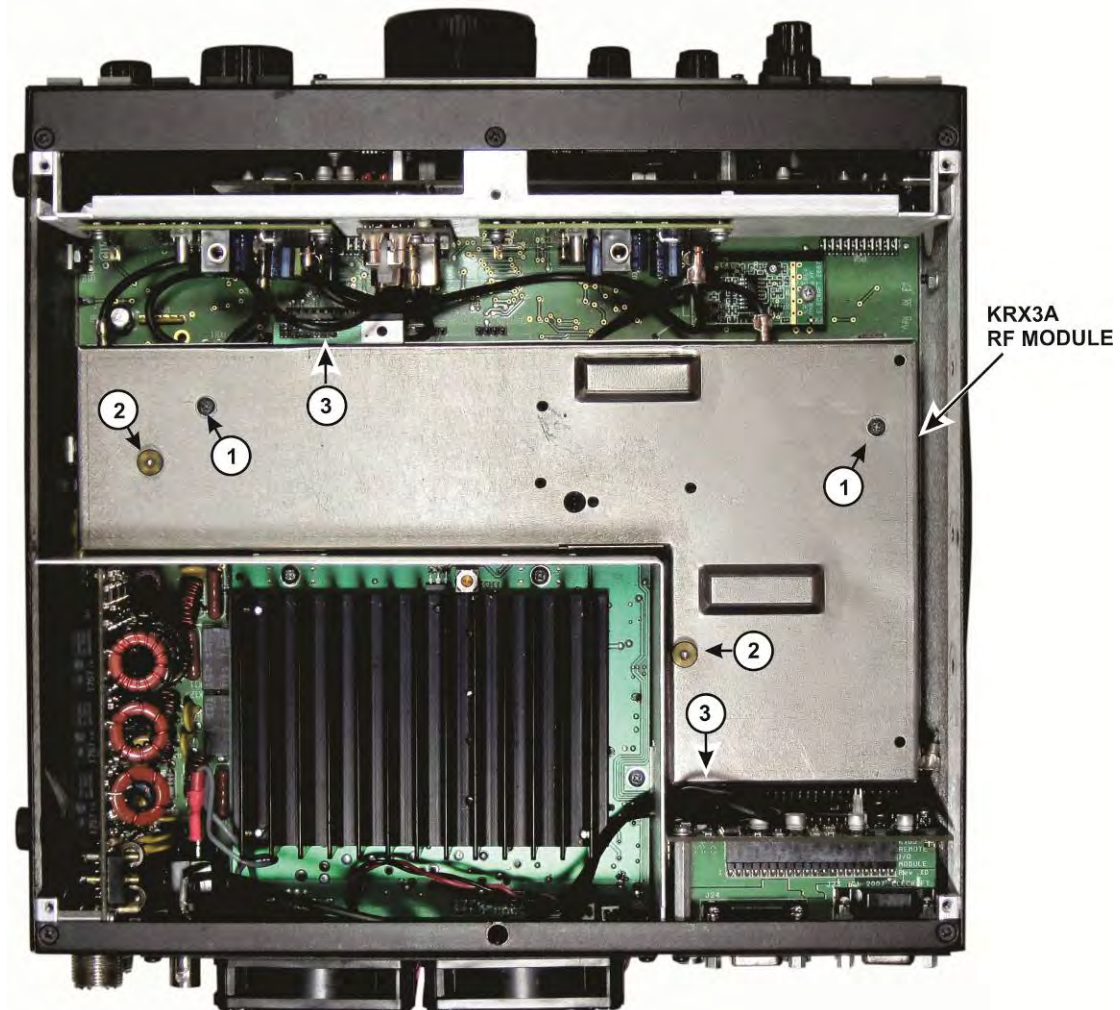

Figure A-4. Removing the KRX3A RF Module.
The crystal (roofing) filters in the KRX3A sub receiver are contained in the L-shaped RF module mounted above the main K3S or K3 RF board (see Figure A-4). Installing or changing the filters involves removing the RF module and the circuit board inside. The filters plug into the circuit board and are held in place by screws. No soldering is required.
- ☐ Remove the KRX3A RF module as follows. The circled numbers refer to Figure A-4 below.
- Remove the two long screws (1) that attach the KRX3A enclosure to the K3S or K3 main board.
- Grip the knurled nuts (2) and lift the KRX3A enclosure up and out of the K3S OR K3. The enclosure will unplug from two interface boards (3), one near the front and the other at the back. Also there will be two coaxial cables attached to the forward edge and usually one cable attached at the back of the enclosure. Carefully unplug these cables holding onto the metal finger grip, not the black coax. The connectors are held by friction and slide apart. They do not unscrew.
- ☐ Remove the two small interface boards (3) that plug into the board on the bottom of the K3S OR K3 and the KRX3A enclosure. The boards may still be attached to the main board or may be attached to the connectors on the KRX3A RF module. Set them aside in an ESD-safe place.
- ☐ Place the KRX3A RF enclosure on your work table. Remove the two knurled nuts (2) and lift the top half of the KRXA3 RF enclosure off of the lower half